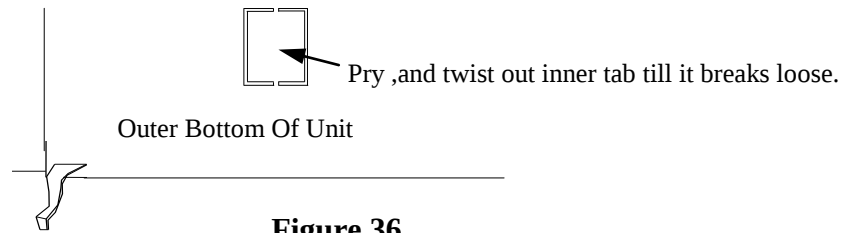

Figure 36
7. Next fasten New Buck's Cast Collar Part number MA6CHIMCNB to the flue exit of stove to be used, using the J hook's provided. Position collar with gasket towards the unit, tighten the J hook's **Firmly** secured. (See Figure 36).
8. Fasten New Buck's Flue Collar Plate to the exit not used for burning stove. Firmly secure the Flue Collar Plate Bracket with the nut and washer provided. (See Figure 36).
NOTE: Position heater out of the way of the installation area. Lay the heater on it side. The following must be done. Locate optional air inlet plate opening on outer bottom of unit. With pliers or screwdriver, pry ,or twist out tab till it breaks loose. This is where your outside air enters unit after installation is complete. (see Page 43 Figure 36).